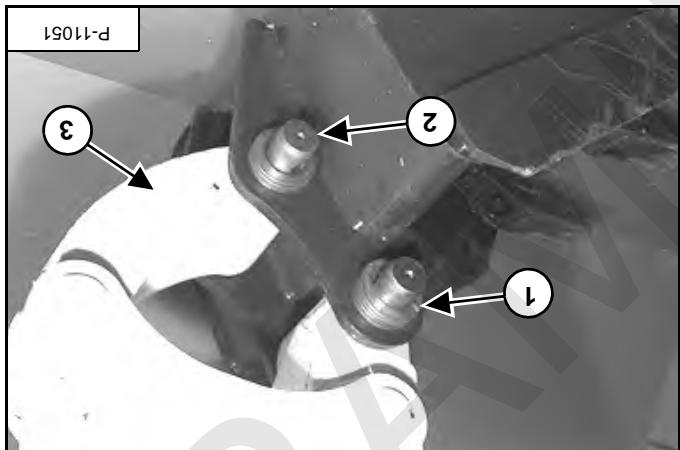

Figure 131
Remove the arm and the link (item 3) [Figure 131] from the attachment.
Remove the washers and pins (item 1 and 2) [Figure 131].